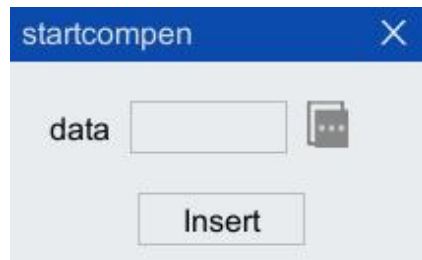

Figure 5-27 [Startcompen] instruction configuration interface
Step1. Click [Insert Cmd > Motion instruction > Tool compensation > startcompen] option in the tool bar of the program editor, and the [startcompen] instruction configuration interface as shown in Figure 5-27 will pop up.